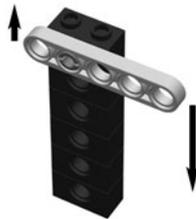

Fig. 14-1. Single link (lever).
**Try This:** A single-link mechanism can be something as simple as a lever (Fig. 14-1). A lever can be used to reverse the direction of motion, so when you push down it pushes up. A lever can also transform the length and strength of the motion.
A variation on the lever from Fig. 14-1 is the bent lever. This transforms motion by  $90^\circ$  instead of  $180^\circ$  (Fig. 14-4). This is known as a *bell crank* since it was used in the bell-ringing systems of times past. The angle between the two arms can be adjusted to change the angle of output relative to the input. The extra links shown in this figure are there to get force into and out of the bell crank. These could be strings, pushrods, or anything else and don't count as a "link" in our accounting.